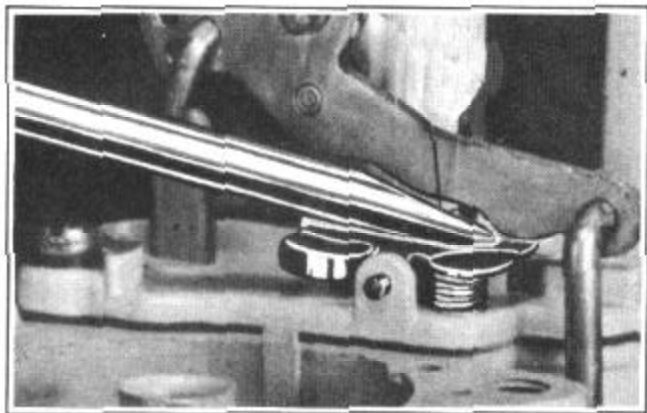

FIGURE 34
3. Adjust by bending rocker arm, Figure 34.